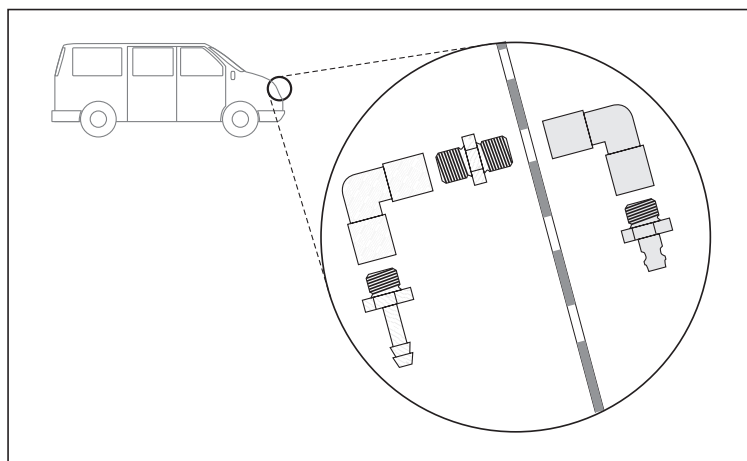

Fig. 6: Fitting the inlet for the measuring gas hose
1. Fit the parts as shown in the diagram in fig. 6.